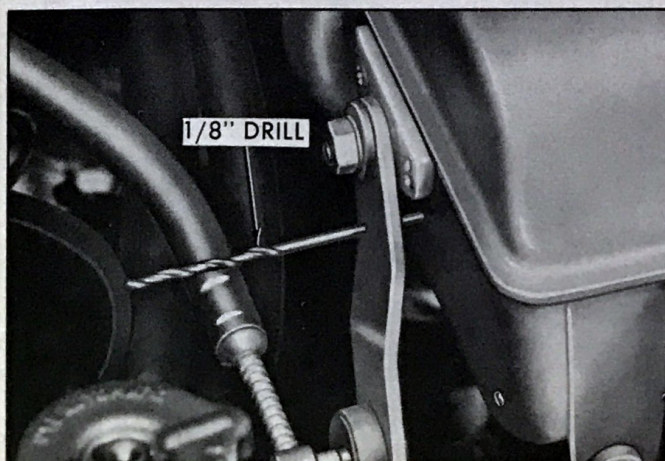

Fig. 15-16 Accelerator Linkage Adjustment
6. Insert 1/8" drill into hole of exterior arm and power unit housing to check alignment, Fig. 15-16.